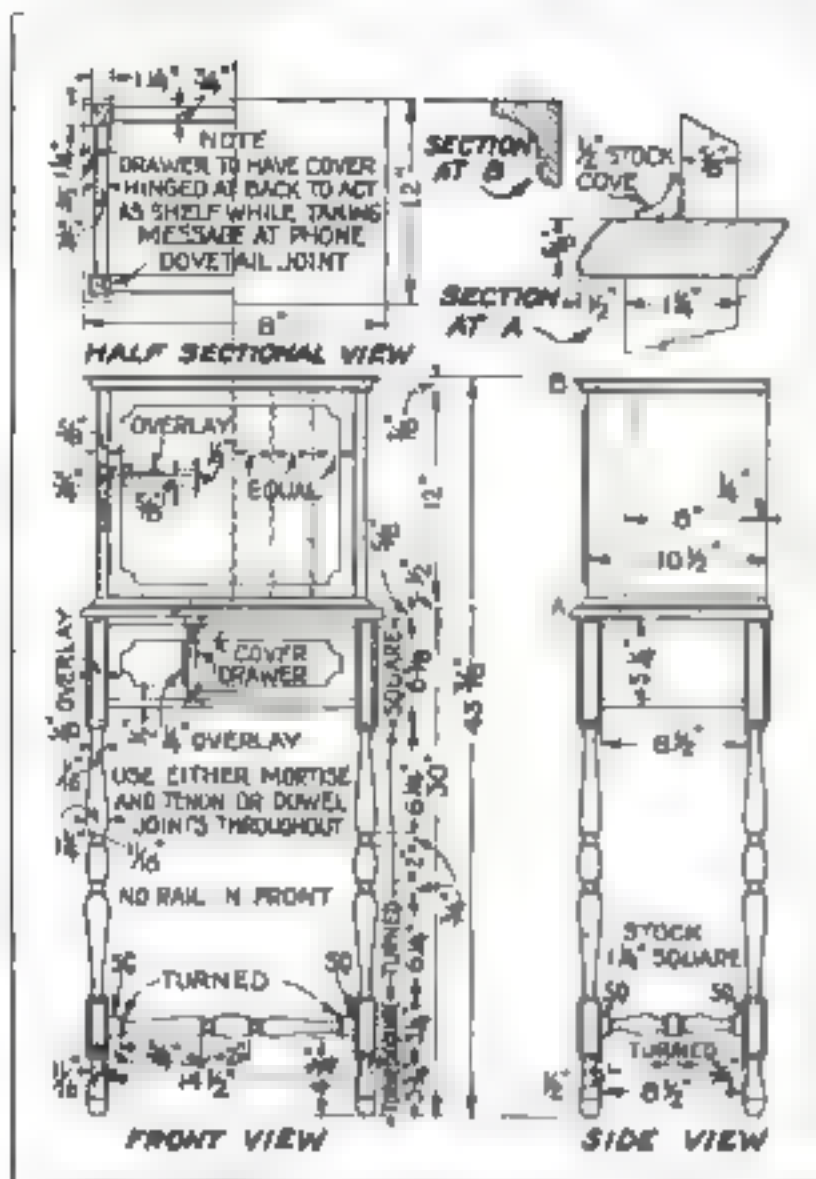

Fig. 4 Dimensions of the telephone cabinet. Any reasonably hard wood can be used in the construction of this project.
**Step No. 1—The Stock.** Get out all stock on the jointer and circular saw to the sizes indicated in Fig. 4.